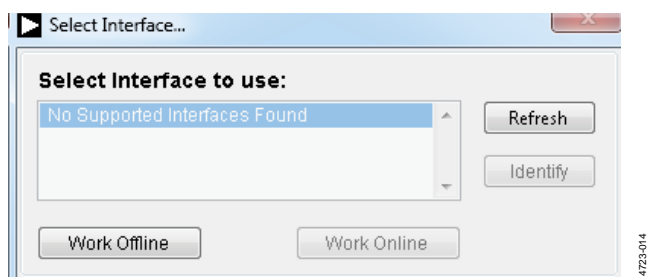

Figure 14. Connectivity Error Alert
2. If the EVAL-AD7616SDZ/EVAL-AD7616-PSDZ evaluation board is not connected to the USB port via the EVAL-SDP-CB1Z when the software is launched, a connectivity error displays (see Figure 14). Connect the EVAL-AD7616SDZ/EVAL-AD7616-PSDZ and EVAL-SDP-CB1Z to the USB port of the PC and wait a few seconds, then click **Refresh** and follow the instructions.